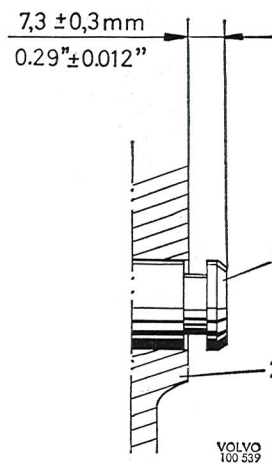

Fig. 4-38. Fitting the reverse shaft
1. Fit the striker lever and striker. Fit the reverse gear and reverse shaft. The reverse shaft is fitted so that it projects 7.0—7.6 mm (0.276—0.300") outside the gearbox housing, see Fig. 4-38.